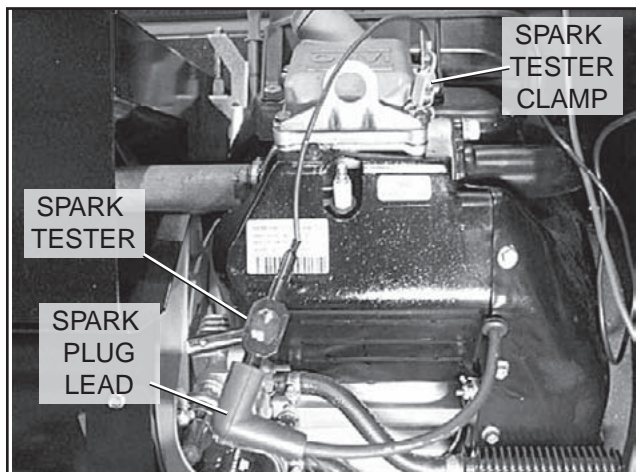

Figure 26. Checking Ignition Spark
- Remove spark plug leads from the spark plugs (Figure 26).